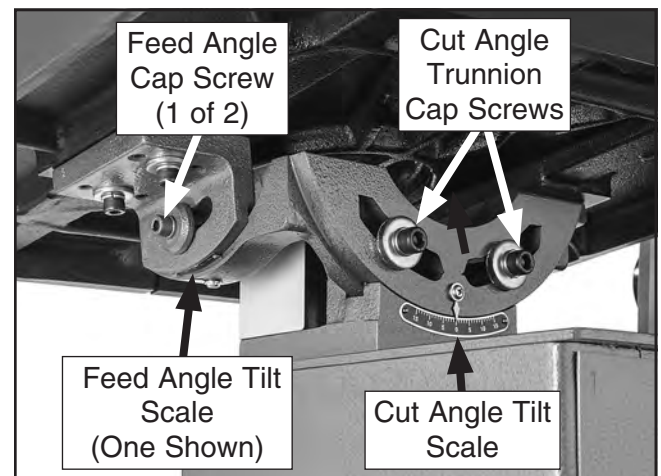

Figure 42. Table tilt adjustment controls.
2. Loosen the two cap screws on the cut angle trunnion underneath the rear of the table (see **Figure 42**).
2. Loosen both cap screws on the two feed angle tilt scale brackets (see **Figure 42**).